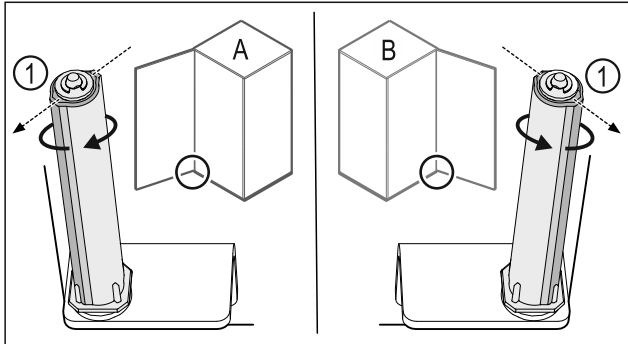

Fig. 44 Left stop (A) / right stop (B)
- ▶ Turn the closing system against the resistance until the bridge of the closing system Fig. 44 (1) shows outward.